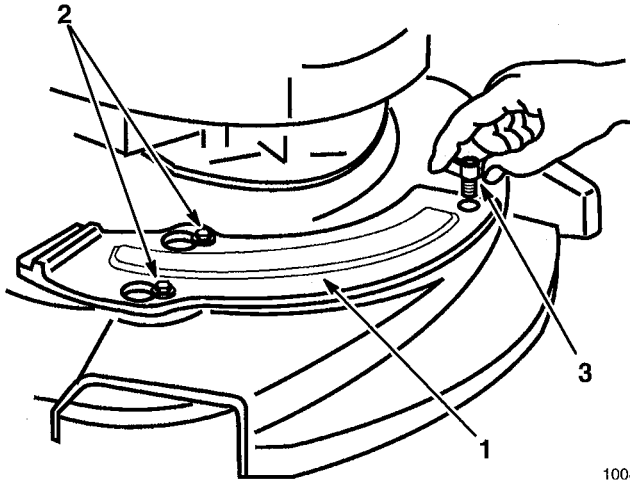

Figure 50
- Two shoulder bolts on the housing protrude through slotted holes in the mulch plate and do not have to be loosened or removed (Fig. 50). Mulch plate moves over the shoulder bolt heads.
- Secure with wing screw (Fig. 50).